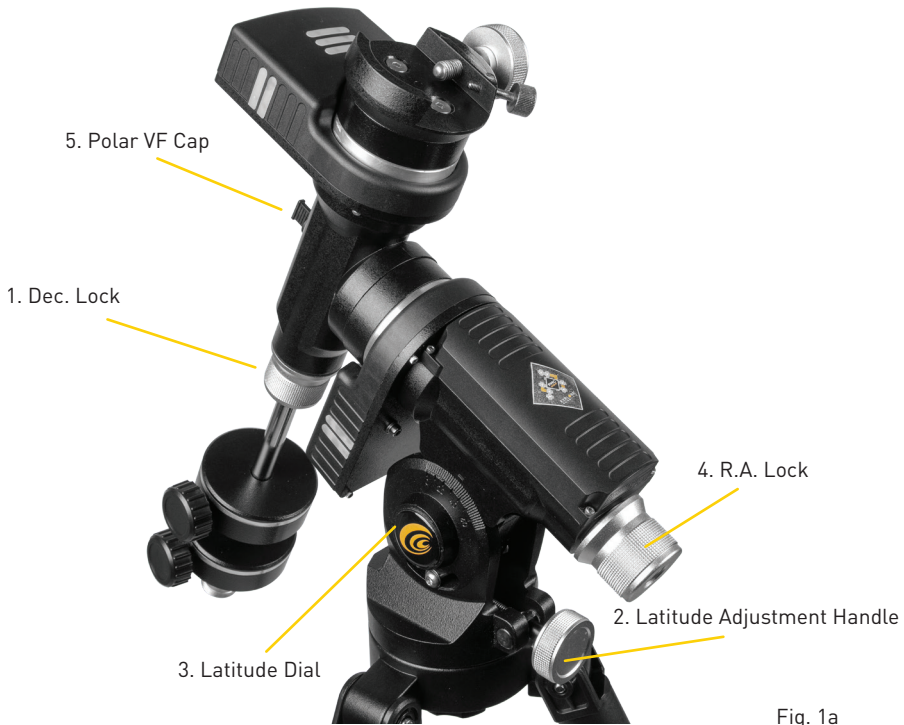

Fig. 1a
- Unlock the R.A. Lock [4, Fig. 1a] Rotate the Optical Tube Assembly until the counterweight shaft is pointing straight down over the mount.
- If you have not already done so, lift the telescope assembly and turn it so that the tripod leg beneath the counterweight rod faces approximately North (South in the Southern Hemisphere). Release the Dec. lock [1, Fig. 1a] of the tripod, so that the optical tube may be rotated. Rotate the optical tube until it points North (or South in the Southern Hemisphere). Then re-tighten the lock. Locate Polaris, the North Star, if necessary, to use as an accurate reference for due North (or Octantis in the Southern Hemisphere).
- If you have not already done so, determine the latitude of your observing location. Visit the LATITUDE AND LONGITUDE TOOL at [explorescientific.com/latitude\\_longitude/](http://explorescientific.com/latitude_longitude/) to find latitudes of any place on Earth. Once you have found your observing location, use the Latitude Adjustment Handle [2, Fig. 1a] to tilt the telescope mount so that the pointer indicates the correct latitude of your viewing location on the latitude dial [3, Fig. 1a].